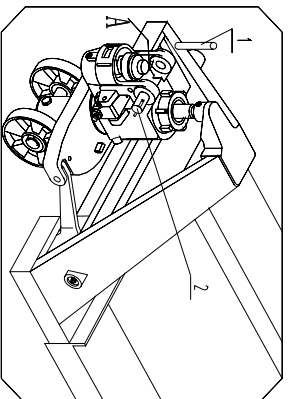

Fig.1
2.1.1 See the fig 1. Dismantle the spring pin 1 from pin roll 2, and then pull out the pin roll 2.